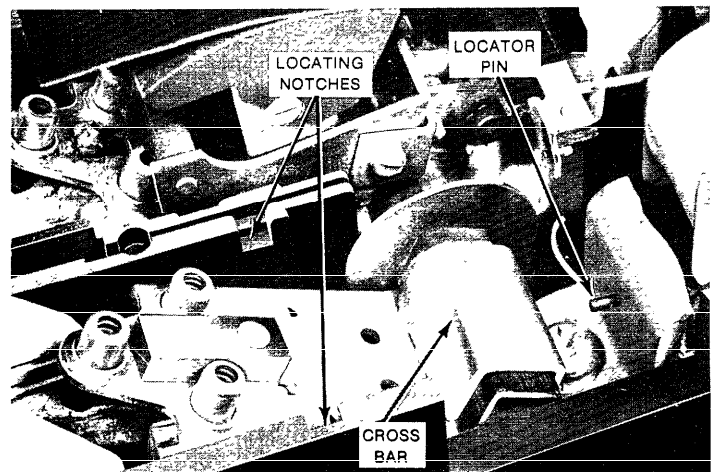

Figure 3
3. Note position of locator pin, notches and cross bar. (Figure 3)